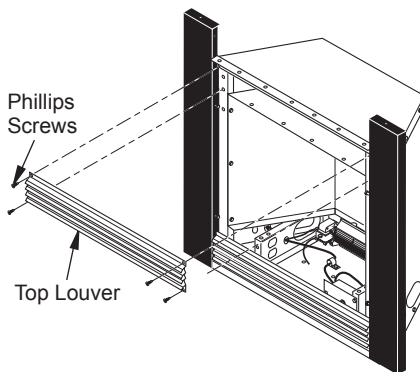

Figure 7 - Removing Louver
4. Using Phillips screwdriver, remove four screws attaching top louver (see Figure 7).